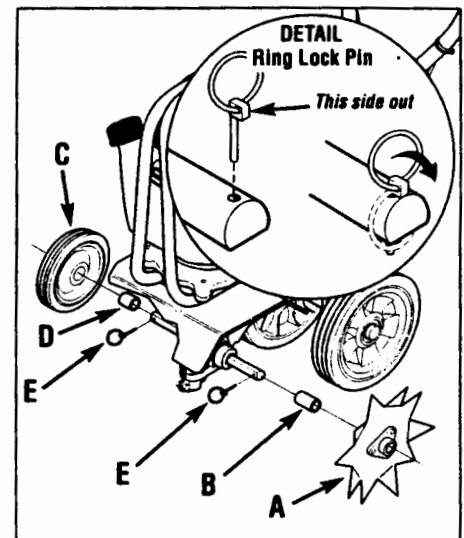
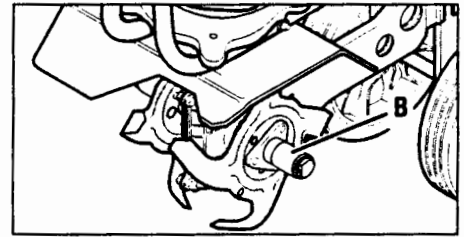

Figure 10: Border/Edger tine assembly.
Figure 13: Narrow tilling tine configuration.
1. Gather together the following parts: Border/Edger Tine (A, Figure 10); Long Bushing (B); Border/Edger Wheel (C); and Short Bushing (D).
5. Install the short bushing (D, Figure 10) onto the tine shaft. Then place the Border/Edger wheel (C) onto the same shaft – the wheel hub should face toward the tiller. Insert the ring lock pin through the rounded side of the tine shaft and snap the ring down over the shaft (see “DETAIL”, Figure 10).
6. Slide the long bushing (B, Figure 10) onto the opposite side shaft. Then install the Border/Edger tine (A) and secure it with the ring lock pin.
4. Slide one of the long bushings (B, Figure 13), provided with the unit, onto the shaft. Insert the ring lock pin through the rounded side of the tine shaft and snap the ring down over the shaft (see *DETAIL - Ring Lock Pin*, Figure 10, in Section 4).